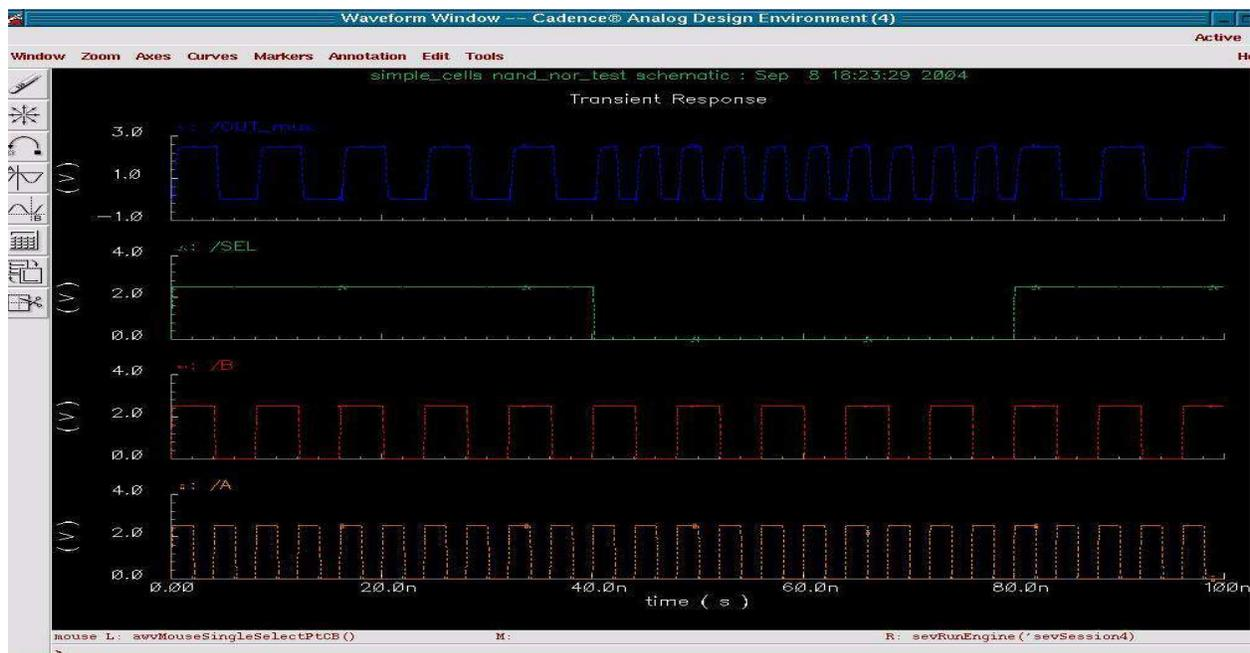

Figure 8: SPICE simulation results of mux\_nand\_nor\_test.
7. Go to Tools->Analog Environment to proceed with SPICE simulation. Configure everything the same way you did before but this time, set the analysis stop time to 100n. Also choose the outputs to be plotted as A, B, SEL and OUT\_mux. After everything is configured, start the SPICE simulation. If everything goes properly, the output waveforms should look similar to that of Figure 8. Observe that When SEL is high, the output waveform is obviously B, and when SEL is low, the output waveform is obviously A.